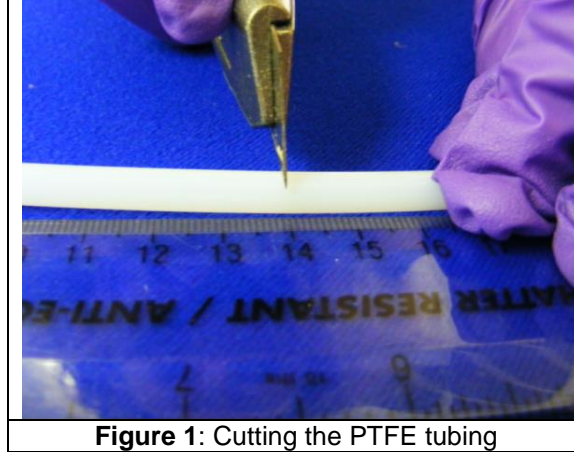

Figure 1: Cutting the PTFE tubing
- 2 Wearing gloves and using a ruler, use a sharp knife to cut a length of the ¼" PTFE tubing 4cm longer than the active area needed (as the source will have a 2cm plug at each end). See Figure 1.